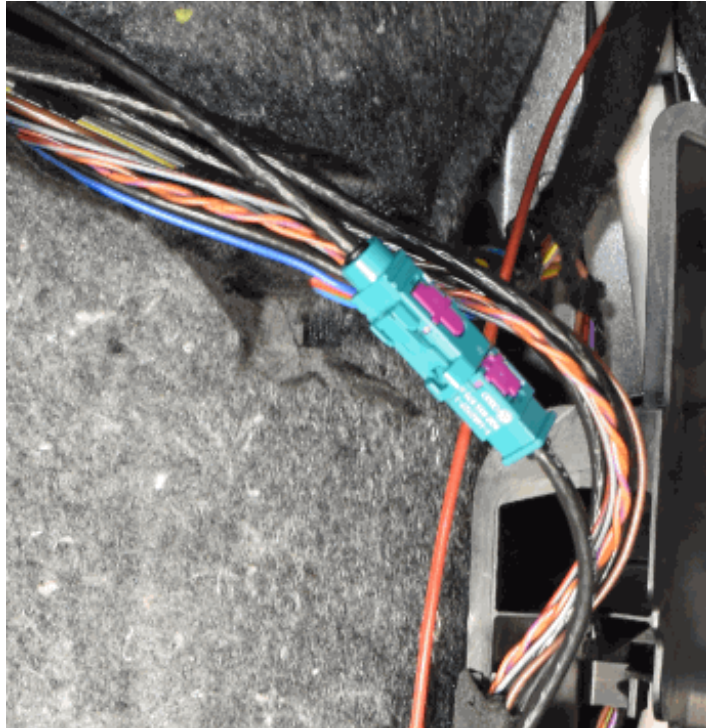

Figure 5. Modified body harness with new female Fakra connector installed, connected to antenna adapter cable.
7. Using the VAS6720 Antenna (Aerial) Cable Repair Set, modify the vehicle side of the coaxial harness by installing the new female Fakra connection and attach it to the antenna adapter cable (Figure 5):